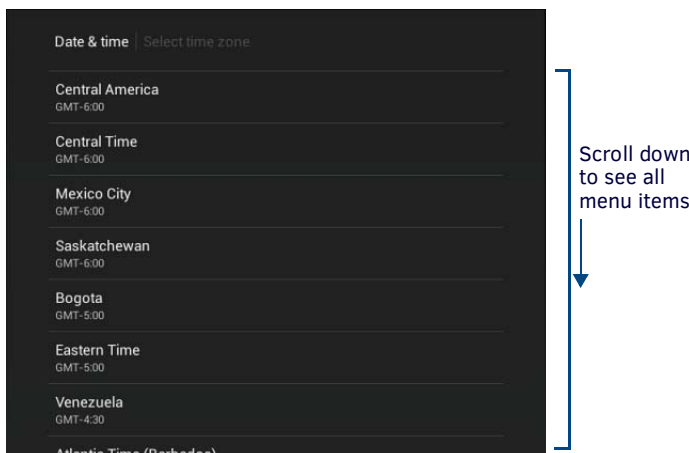

FIG. 82 Select Time Zone window
| Select Time Zone: | Use the Select Time Zone window (FIG. 82) to select the current time zone. |
1. Press **Select Time Zone** to open the *Select Time Zone* window (FIG. 82).